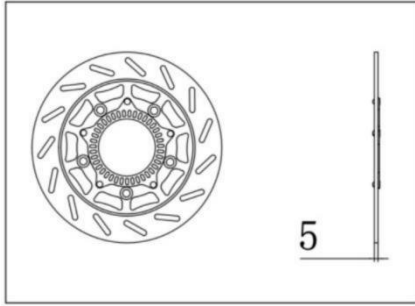

Figure 30 Inspection of Rear Brake Disc
10.1. Inspection of rear brake disc (Figure 30)